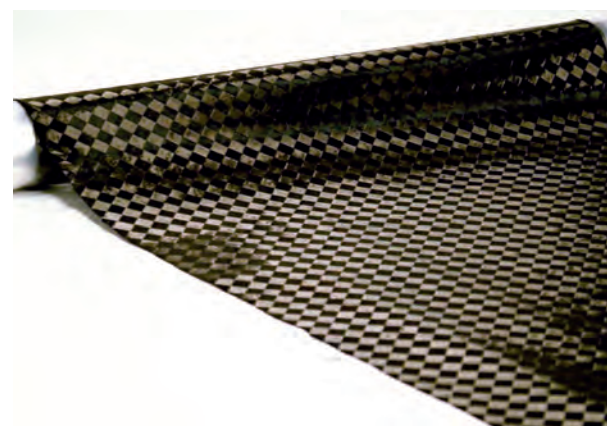

Fig. 2 TeXtreme®  $+\alpha/-\beta$  STF con orientamento STT a  $+45/-45$
The need for including fibers in relatively different orientations has so far been realized by plying either UD sheets or woven fabric sheets. Whereas use of UD sheets ensures fiber continuity without any structural integrity, the use of woven fabric sheets, though having structural integrity, creates fiber discontinuity because they have to be cut angularly from a larger sheet and laid. Such 'patches' of woven material have to be laid carefully to match with the edges of the previously laid 'patches'. Often times the woven material patches are laid in certain sequences with some overlapping, which causes the problem of thickness variation at the joints. These fiber discontinuities and thickness variations adversely affect the performance of composite materials. In addition to the indicated performance related problems, use of woven patches also has an adverse impact on the economics of production relating to cutting, plying and wastage of material. An approach to overcome some of the discussed problems has been through use of Non-Crimp-Fabrics (NCF) materials. However, use of NCF materials has certain drawbacks such as their non-symmetrical arrangement of UD plies, relatively higher thickness and areal weight of material, in-plane delamination, use of epoxy incompatible polyester stitching yarns with its corresponding knock-down factor due to stitching crimp. In an attempt to overcome the problems associated with the use of UD, NCFs and conventional woven materials, the  $+\alpha/-\beta$  STF has been developed. In Fig. 1 are shown three different  $+\alpha/-\beta$  constructions. As can be inferred, they represent the constituent STT arranged in (a) obtuse angle, (b) right angle and (c) acute angle. These constructions of course have the STT oriented in equal but opposite angles. Should there be a need for having an  $+\alpha/-\beta$  construction wherein the STTs are incorporated unequally, then such an  $+\alpha/-\beta$  STF can be also produced as shown in Fig. 1(d). The fiber angle flexibility in the material provides, for example, the possibility to tailor produce an  $+\alpha/-\beta$  STF with STT in about  $+55/-55$  degrees to uniquely enable direct production of pressure vessels. Such a fabric could be wound over itself to as many layers as needed to meet the required performance demand. At present  $+\alpha/-\beta$  STF can be produced using STT of different width from high strength (HS), Intermediate modulus (IM) and high modulus (HM) carbon fiber yarns of high tow count (12k and above) in fabric areal weights starting at 80 gsm, 76 gsm and 130 gsm respectively. STTs of lower areal weight will most likely be available shortly hence, the areal weight of  $+\alpha/-\beta$  STF can also be reduced. All these variants of  $+\alpha/-\beta$  STF constructions are producible in continuous-lengths, which benefits in eliminating cutting, laying and splicing. Further, such a continuous  $+\alpha/-\beta$  STF material can be directly preimpregnated as the tapes are well integrated to resist fabric deformation in both length and width directions. An example of  $+\alpha/-\beta$  STF produced in  $+45/-45$  STT orientation is shown in Fig. 2.
differente da filati di fibra di carbonio ad alta tenacità (HS), a modulo Intermedio (IM) e ad alto modulo (HM) e trama ad alto titolo (12 k e oltre) con pesi per area a partire da 80 gsm, 76 gsm e 130 gsm rispettivamente. Saranno disponibili a breve STT con peso inferiore per area insieme +α/-β STF con peso per area ridotto. Tutte queste varianti delle strutture +α/-β STF sono riproducibili in lunghezze continue, con l'ulteriore vantaggio di eliminare tagli, stratificazione e giunti. Inoltre, questo materiale continuo +α/-β STF può essere preimpregnato direttamente in quanto i nastri sono ben integrati per resistere alle deformazioni del tessuto in entrambe le direzioni della lunghezza e della larghezza. Un esempio di +α/-β STF prodotto con orientamento +45/-45 STT è presentato in fig. 2.